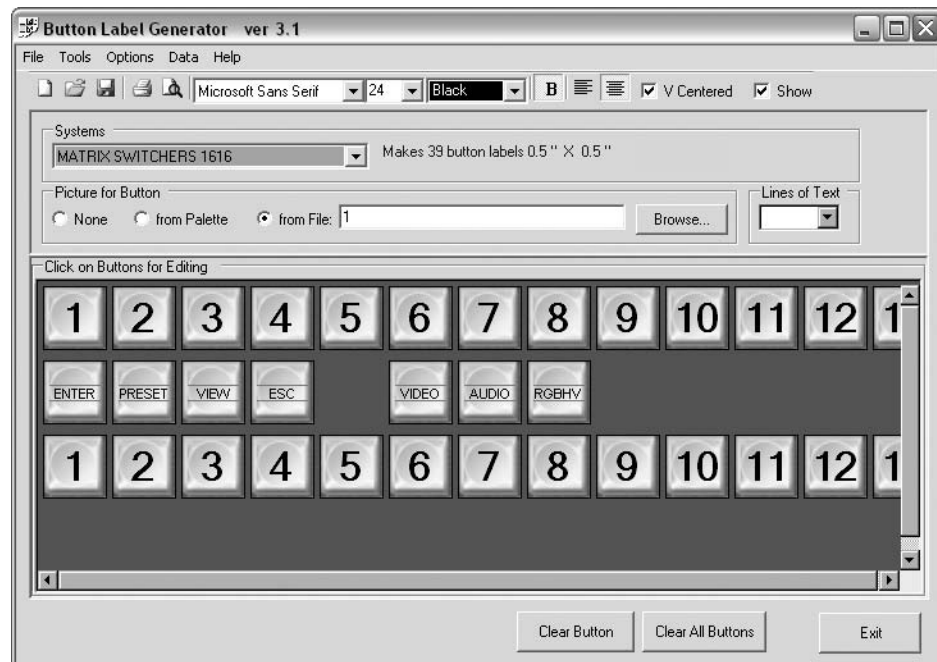

Figure 5-37 — Extron Button-Label Generator window
1. To run the Button-Label Generator program, click **Start > Programs > Extron Electronics > Button Label Generator > Button Label Generator**. The Button-Label Generator window appears (figure 5-37).